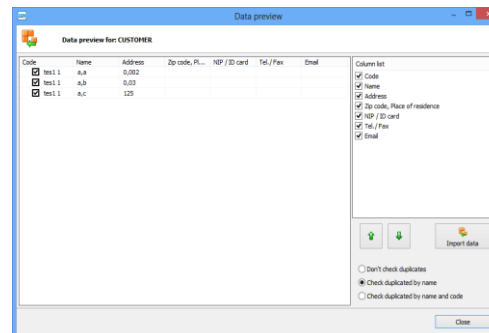

Fig. 17 Data import window
5. By the use of wizard select proper data in data import window (Fig. 17)
- By the use of wizard select proper data in data import window (Fig. 17)